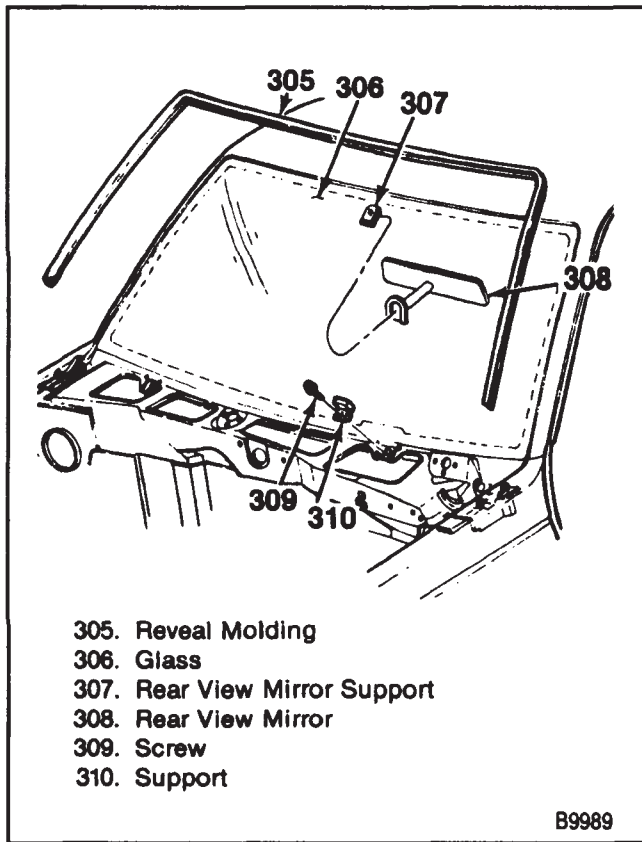

Figure 1—Windshield Components
**Remove or Disconnect (Figure 1)**